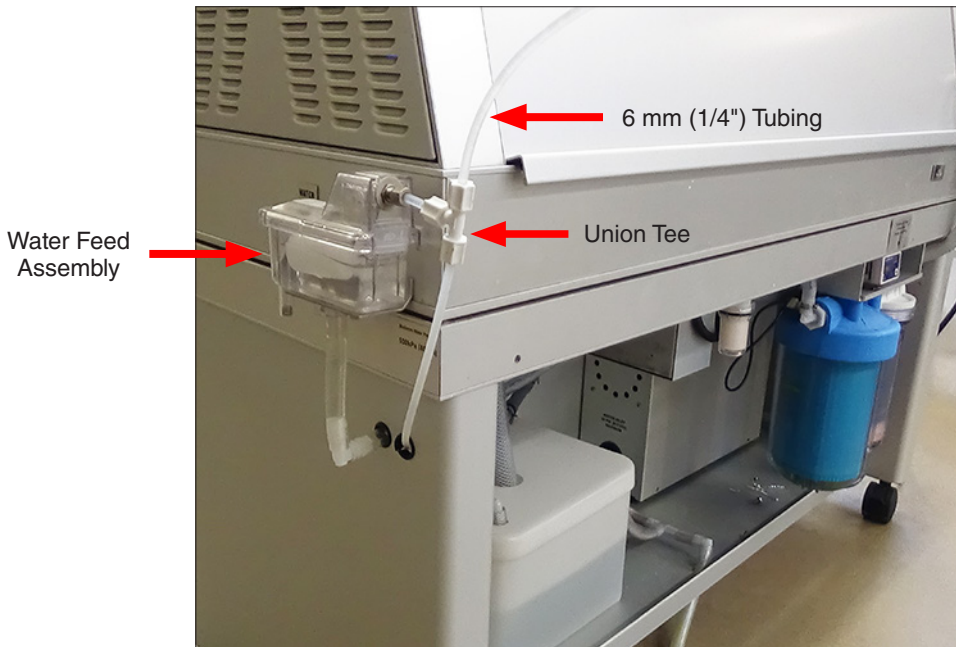

Figure 5.4g: Water supply connection for QUV/spray/rp testers.
- Connect a 6 mm (1/4") water supply tube to the union tee on the water feed assembly (Figure 5.4g).